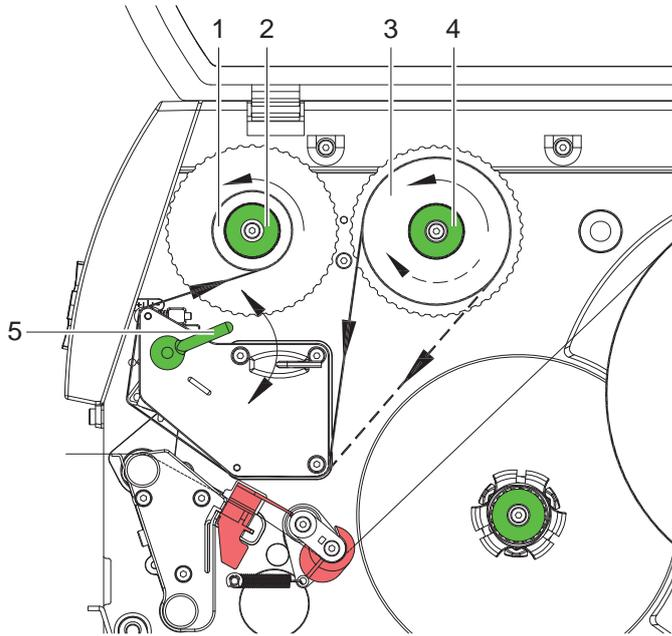

Fig. 14 Feed path of the transfer ribbon
2. Turn lever (5) counterclockwise to lift the printhead.
3. Slide transfer ribbon roll (3) onto the ribbon supply hub (4) until it stops and so that the color coating of the ribbon faces downward when being unwound. No rotation direction is specified for the ribbon supply hub (4).
4. Hold transfer ribbon roll (3) firmly and turn knob on ribbon supply hub (4) counterclockwise until the transfer ribbon roll is secured.
5. Slide suitable transfer ribbon core (1) onto the transfer ribbon take-up hub (2) and secure it in the same way.
6. Guide transfer ribbon through the print unit as shown in Fig. 14.
7. Secure starting end of transfer ribbon to the transfer ribbon core (1) with adhesive tape. Ensure counterclockwise rotation direction of the transfer ribbon take-up hub here.
8. Turn transfer ribbon take-up hub (2) counterclockwise to smooth out the feed path of the transfer ribbon.
9. Turn lever (5) clockwise to lock the printhead.